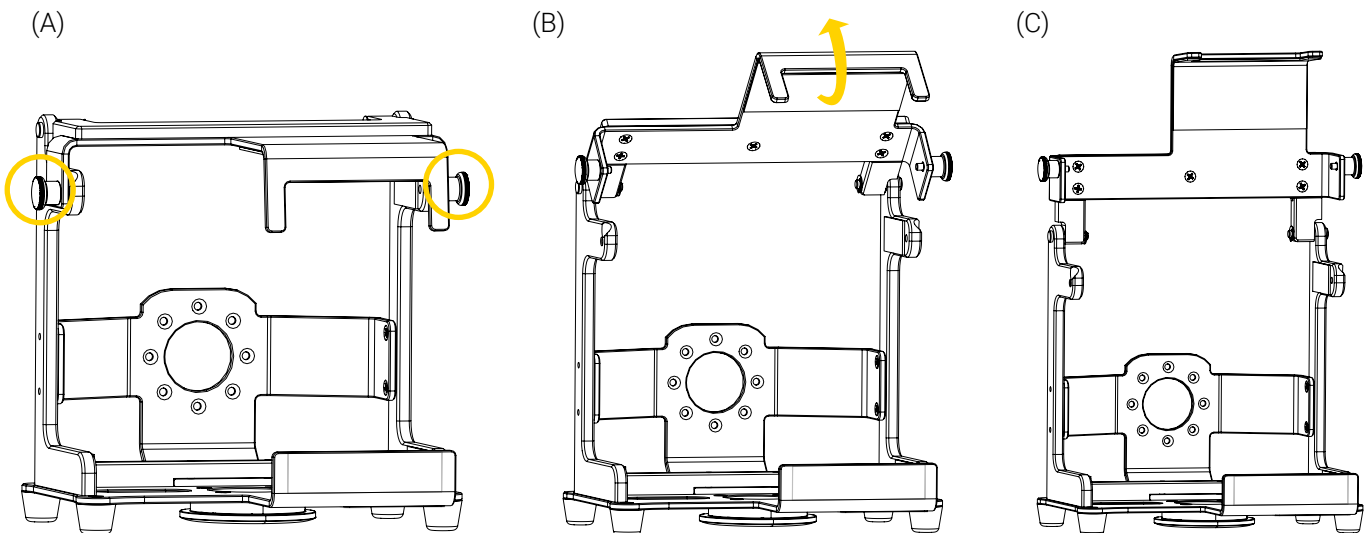

Figure 3: Unlocking/Opening the Bracket Pro Serie 221
1. If the bracket is closed (locked), pull the 2 quick release mechanism knobs to disengage the top, then lift the top upwards until it has reached its final position (Figure 3).